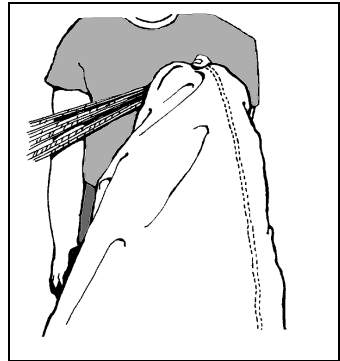

Figure 13.
Step 8.) Place the trailing edge of center cell (indicated by the Data-panel) under the thumb and lift the canopy. (See Figure 13.)